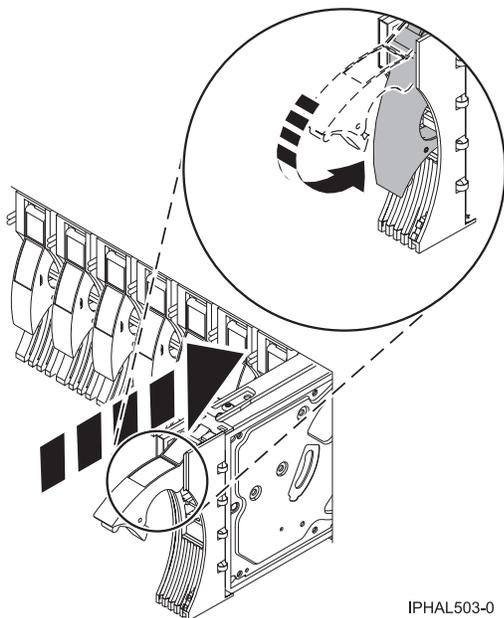

Figure 36. Installing a disk drive in a model or 7311-D20
10. Slide the disk drive all the way into the system or expansion unit and then lock it in place by pushing in the disk drive handle, as shown in Figure 36.